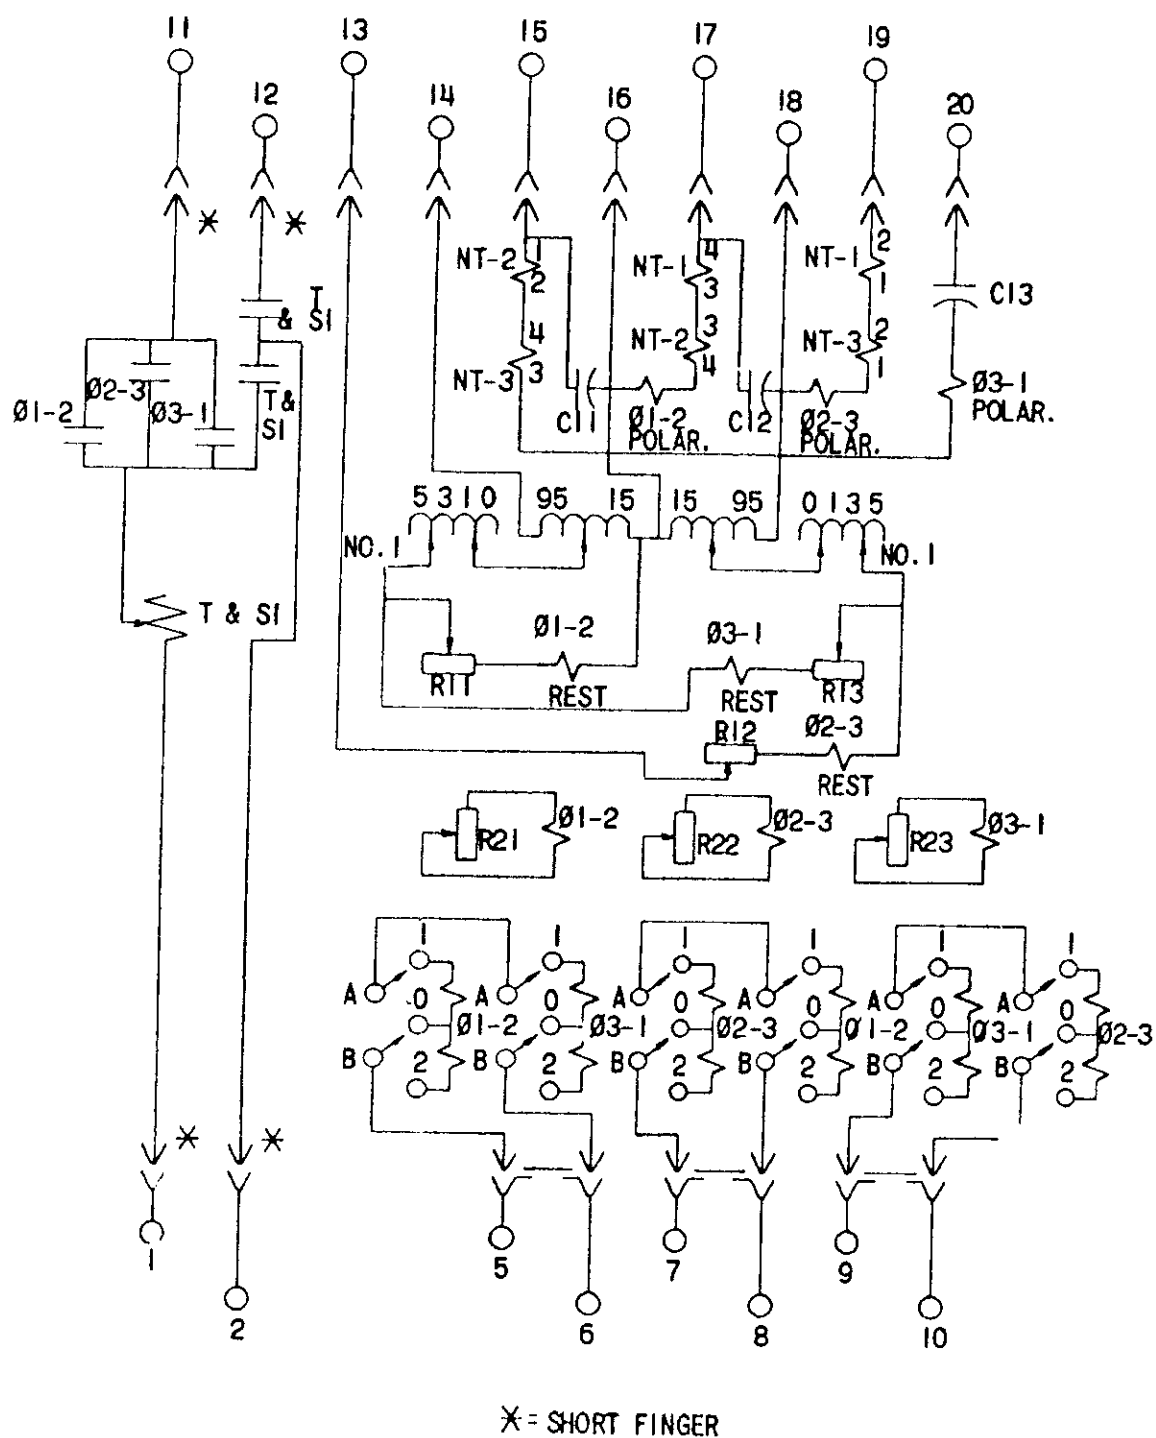

FIG. 1 (0227A7023-0) Internal Connections Diagram for the CEY56A Relay (Front View)
2. The target/seal-in and the contact circuits are wired similar to the 12CEY16(-)A relay. Check Figure 1 of this insert booklet for the 12CEY56A(-)A internal connections.